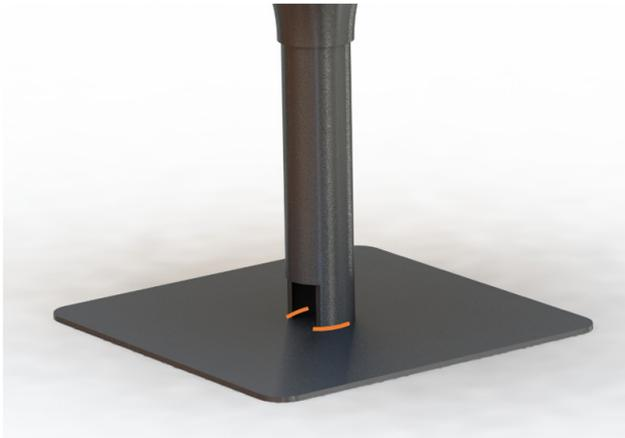

Figure 1 - Welding zone Base-Cylinder
Weld the base (26) to the big diameter cylinder (16), figure 1, that's going to be the cover for the gas lift and will protect and give a nice look to the final design of the model.